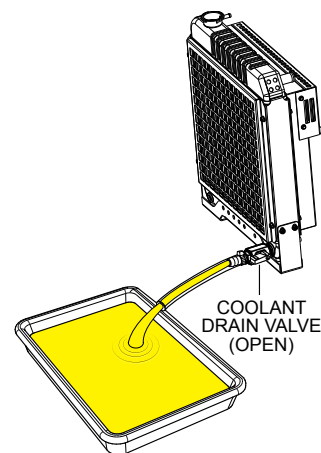

Figure 66. Draining Engine Coolant
- Place the **coolant drain valve** in the **OPEN** position (Figure 66) and allow the coolant to drain into a suitable container.